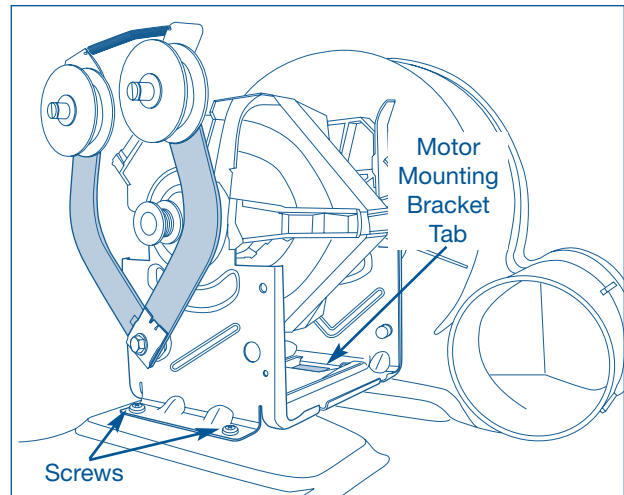

Figure 4-38.
3. Using a #2 square bit screwdriver, extract the screws securing the motor assembly to the unit base. (See Figure 4-38)